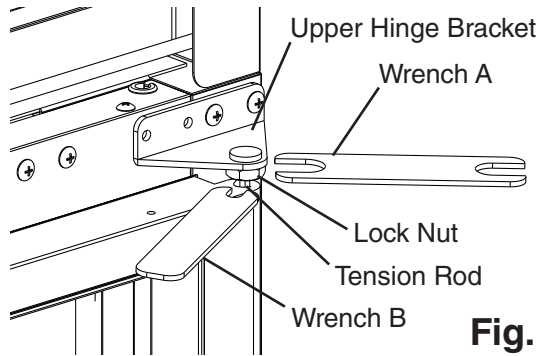

Fig. 34
- 5) Grip wrench B in a new position on the tension rod and hold (prepare for tension pressure), then using wrench A, loosen the lock nut again. See Fig. 34.